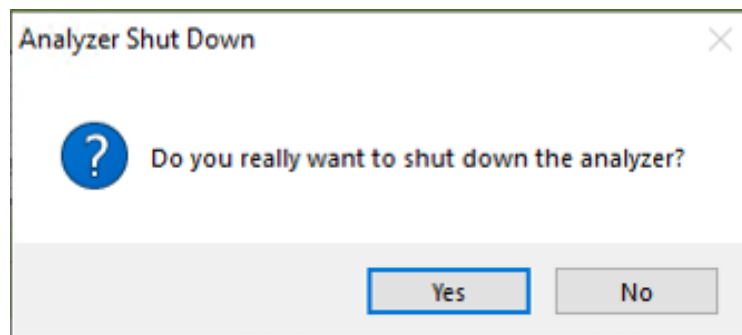

Figure 2: Shutdown Confirmation Pop-Up Dialog
3. A window will pop-up (Figure 2) asking the user to confirm the shutdown. (Note: If three options are given on an older instrument, choose the “**For Shipment**” option.)